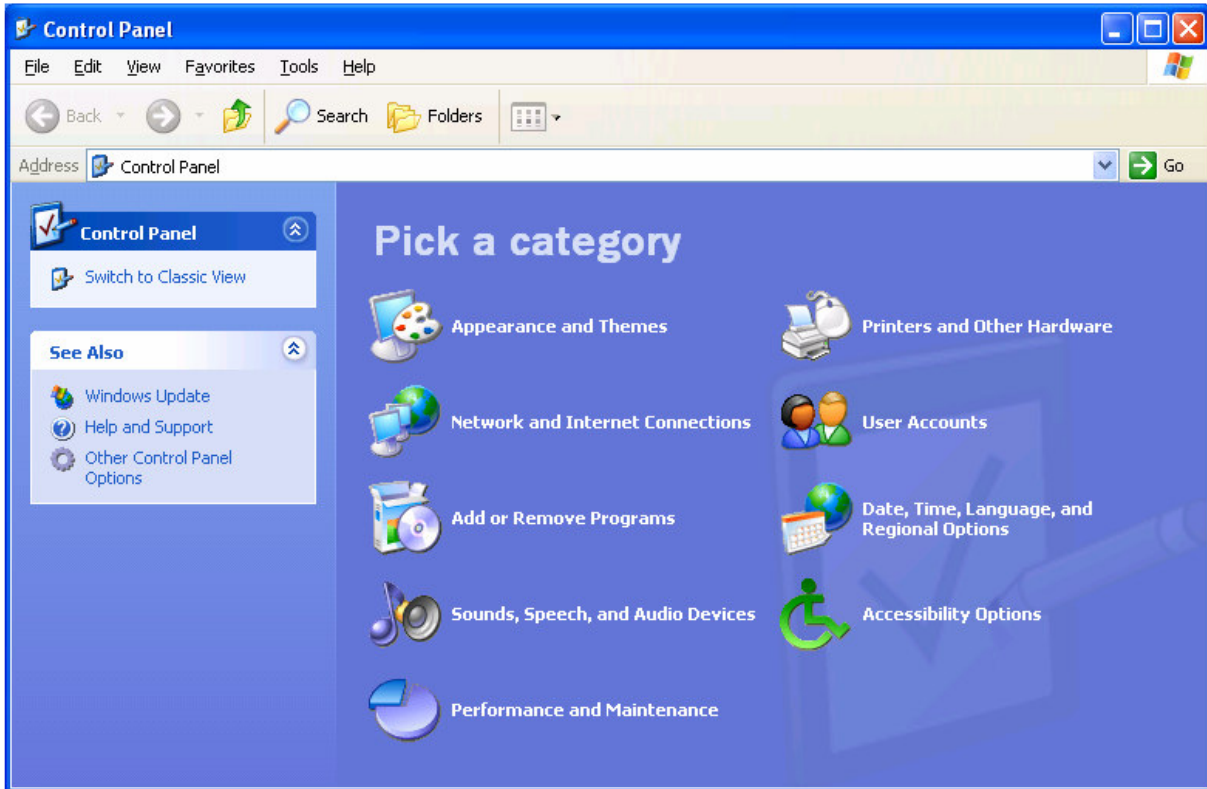

Figure 5.5-2 [Control] dialog
- (a) On the Windows Start menu, select [Control Panel]. The dialog shown in Figure 5.5-2 will be displayed. Click [Network and Internet Connections].